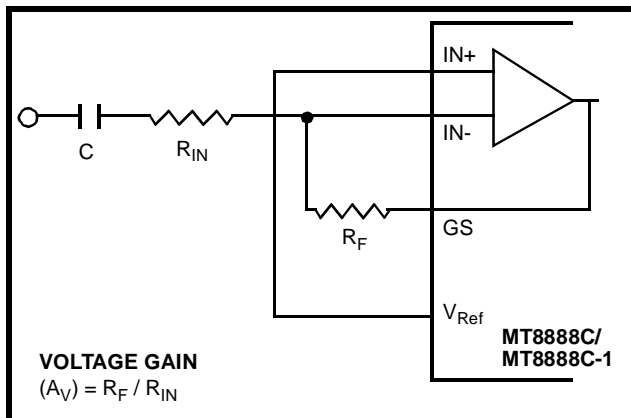

Figure 3 - Single-Ended Input Configuration
The input arrangement of the MT8888C/MT8888C-1 provides a differential-input operational amplifier as well as a bias source ( $V_{Ref}$ ), which is used to bias the inputs at  $V_{DD}/2$ . Provision is made for connection of a feedback resistor to the op-amp output (GS) for gain adjustment. In a single-ended configuration, the input pins are connected as shown in Figure 3.